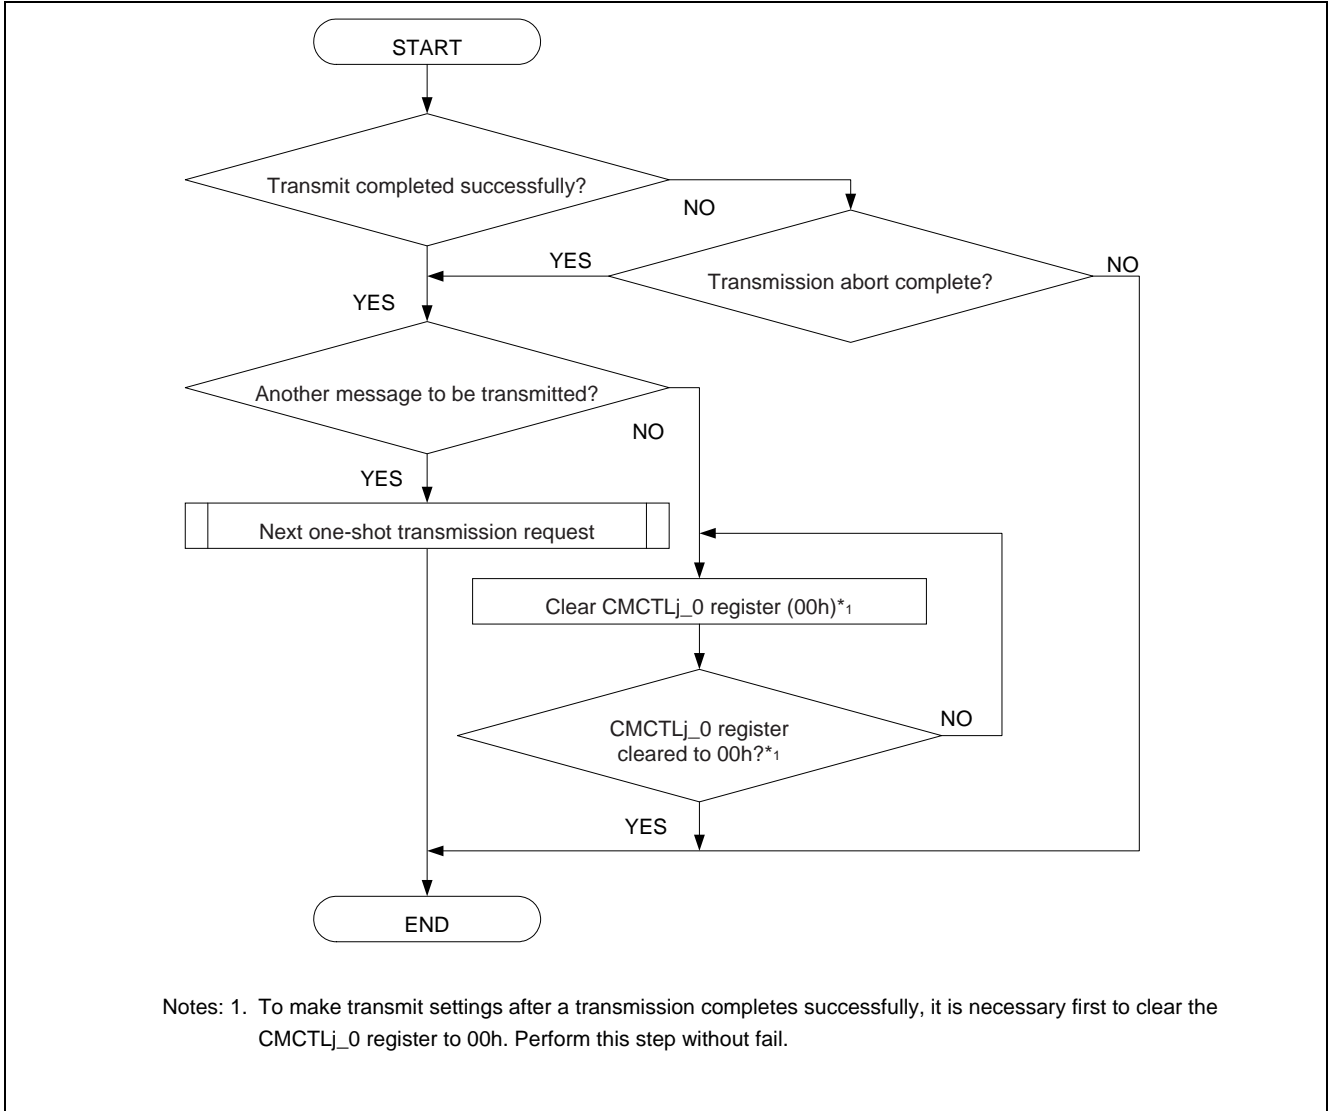

Figure 2.10 One-Shot Transmission Complete Procedure
(4) One-Shot Transmission Complete Processing
Figure 2.10 shows the necessary procedure following one-shot transmission complete. This procedure requires that polling be performed. An interrupt cannot be used because no CAN\_0 transmission complete interrupt is generated when transmission terminates due to loss of an arbitration conflict or an error. For details on performing the succeeding one-shot transmission request for a mailbox set to one-shot transmission mode, see section (3) One-Shot Transmission Request.